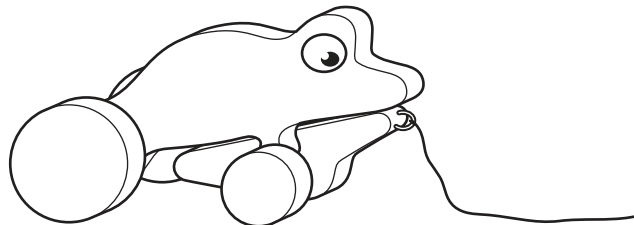

Fig. 2
- 4 Fig. 2 shows a wooden toy frog.